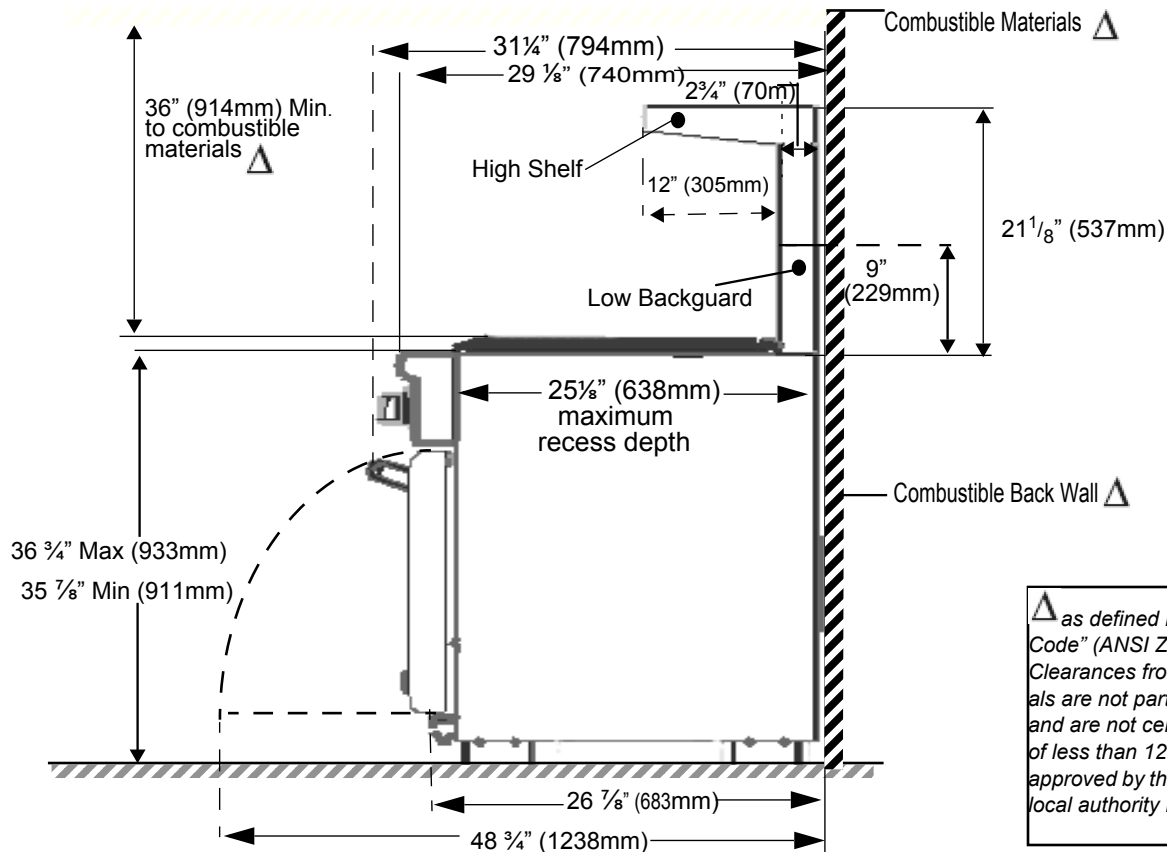

FIGURE 2: INSTALLATION CLEARANCES WITH HIGH SHELF OR LOW BACKGUARD
- The range should not be recessed into the cabinets beyond the edge of the front face of the oven (see *Figure 2 on page 6*).